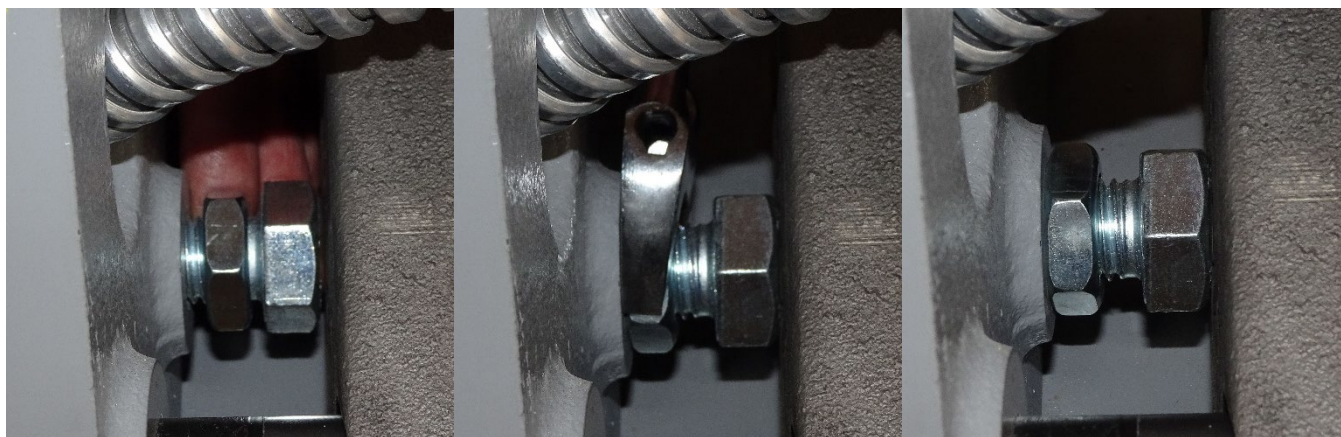

Figure 8
- Check Air Gap between Coil Carrier Assembly and Armature Disc. Brake Air Gap is factory set and should be approximately 0.020 inch (new condition). See Figure 8.